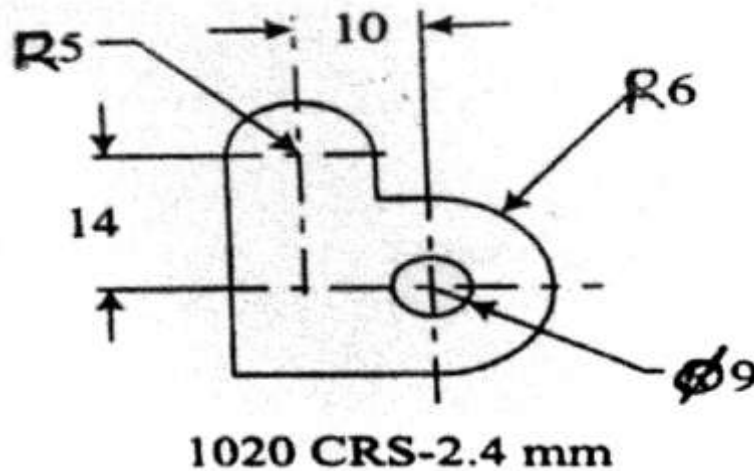

Figure 3
- Q.8 Design either a compound or progressive die to blank the work piece shown in figure 3 design should include 16